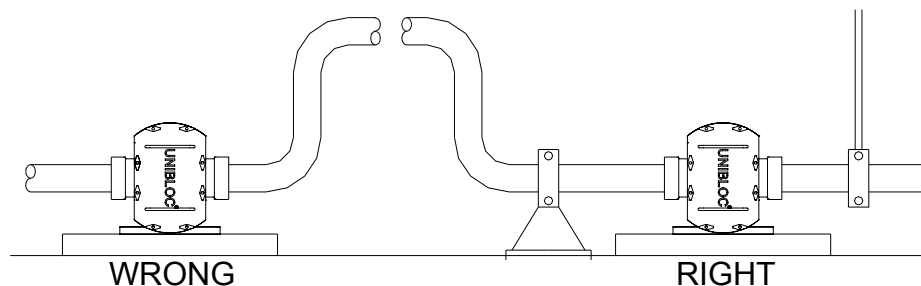

fig. 2.1
Incorrect installation, operation or maintenance of the equipment can cause serious personal injury and/or damage to the equipment and will invalidate the warranty. Make sure the pipes are well supported as the pump is not meant to serve this purpose. Keep in mind that pipes filled with liquid are very heavy. See fig. 2.1 for recommended pipe layout.
-  Never operate the pump if the front cover and/or suction/discharge pipe-work are not in place. Make sure they are properly installed, see fig. 2.1. Likewise, never operate the pump if other protection such as coupling and shaft guards are missing or incorrectly installed.
- Make sure the pipes are well supported. Do not use the pump to support the piping. See figure 2.1